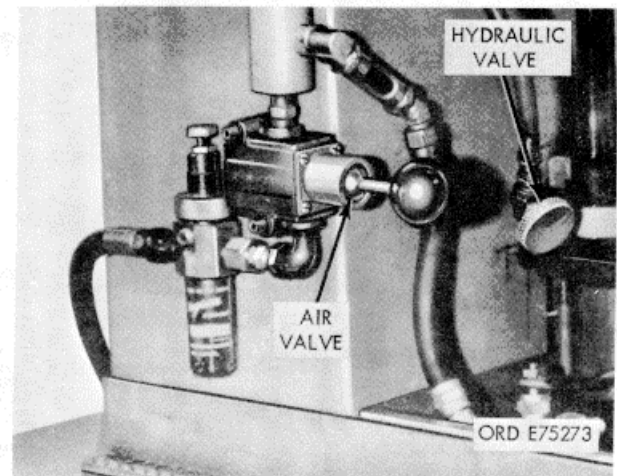
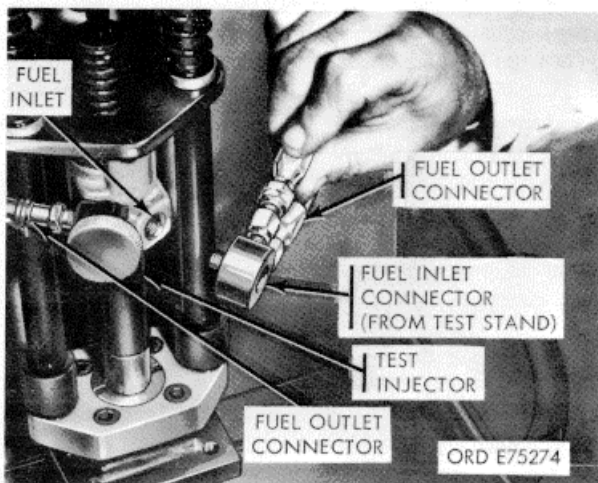
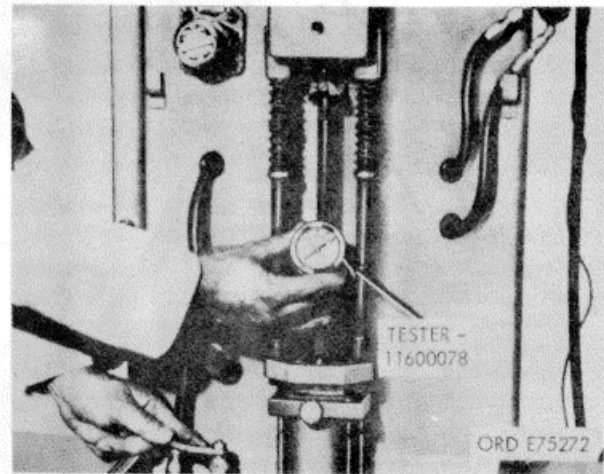

Figure 3-61. Hydraulic and air valves.
Figure 3-64. Fuel inlet installation
Figure 3-67. Load cell tester.
(2) Fill hydraulic fluid reservoir.
(3) Test oil tank on stand must be kept at least ye full of diesel fuel.
(4) Aline timing mark (fig. 3-60) and close hydraulic valve and open the air valve (fig. 3-61). Place load cell tester (1, fig. B-29) in test stand and clamp in place by opening hydraulic valve (fig. 3-61).
(11) Open air valve (fig. 3-61) and as injector goes in clamped position make sure plunk link is properly alined and engaged in link gui
(12) Check air gage pressure at top of ]
draulic reservoir as originally established with load test cell. Close hydraulic valve (fig. 3-61) to lock injector in clamped position. Connect inlet and drain connectors (fig. 3-64) to injector.
(8) When air valve is opened, air travels ul in center of tube type hydraulic reservoir and 4 downward pressure against column of hydraulic (fig. 3-67), activating load cell tester.
(9) When both air valve and hydraulic valve3-61) are opened, hydraulic fluid is admitted piston in cylinder and lifts injector into clamped tion. Any leak in hydraulic clamping system directly affect injector loading and must not be per-mitted.
(10) In clamped position and with appropriate link in place, tension on injector is same as it operating engine. Use of improper link will clamp load and upset delivery valves.
(11) Fuel is delivered to injector through connector. Fuel pressure here is controlled a point by connecting line and pressure reg (3-64).
(12) The second connection with clear plastic line is injector outlet connection (fig. 3-64) which c drain fuel from injector back to tank.
(13) During test stand operation, operator a test cycle which diverts fuel to vial graduate so amount of fuel being injected can be measure
(1) Attach test stand inlet pressure line to connection injector adapter (23, fig. B-28) as s in (fig. 3-64).
(2) Hold injector plunger down against its seat in injector cup with injector in vertical position (fig.